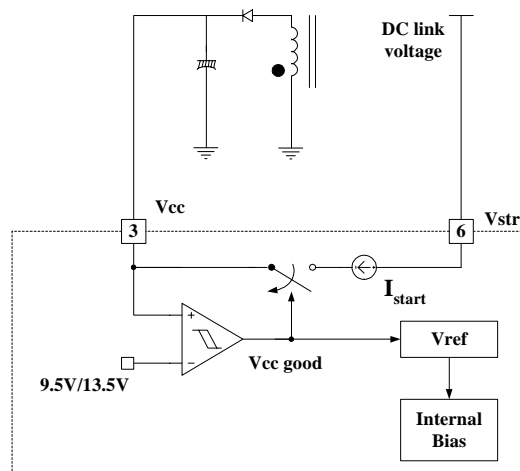

Figure 4. Internal startup circuit
**1. Startup :** At startup, an internal high voltage current source supplies the internal bias and charges the external capacitor that is connected to the Vcc pin as illustrated in figure 4. When Vcc reaches 13.5 V, the FPS begins switching operation and the internal high voltage current source is disabled. Then, the FPS continues its normal switching operation unless Vcc goes below the stop voltage of 9.5 V and the power is supplied from the auxiliary transformer winding. Once the auxiliary power starts up, the main power starts up with a time delay of 30ms.